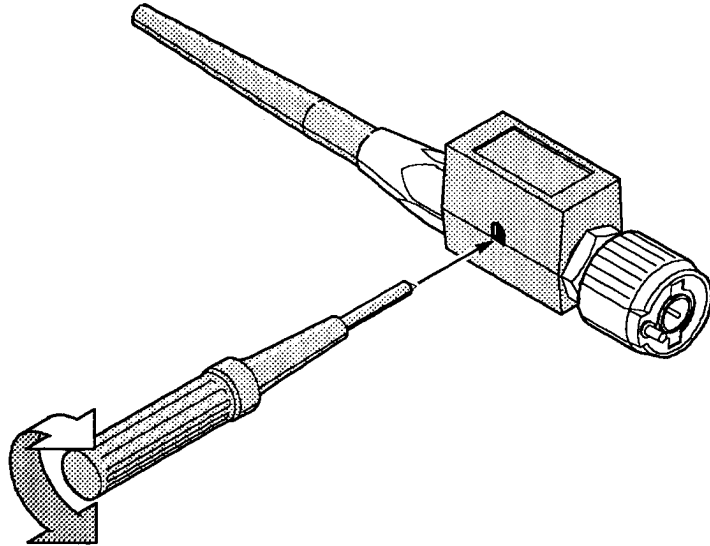

Figure 5-3: Performing Probe Compensation
- a. Locate the probe compensation hole in the side of the probe body (see Figure 5-3).